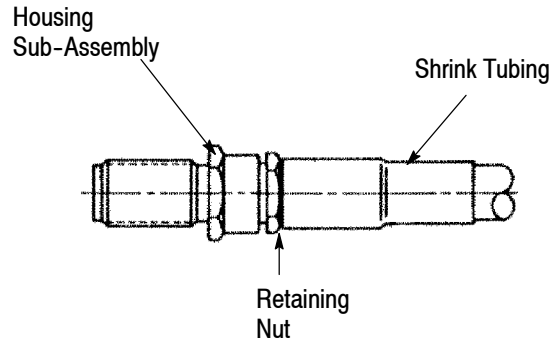

Figure 6
3.4. Securing the Housing to the Inner Sleeve Sub-Assembly and Shrink Tubing (Figure 6)
3. Position the shrink tubing over the ferrule as shown in Figure 6.